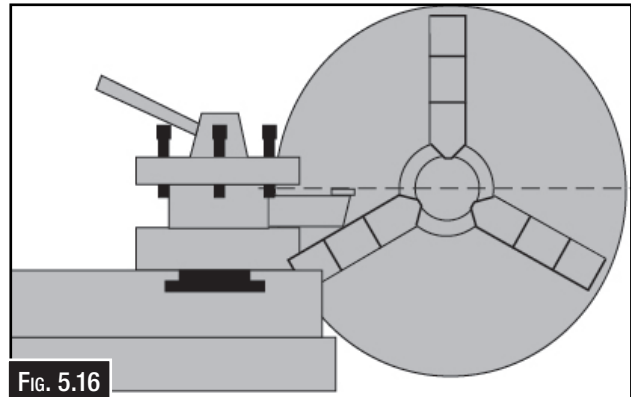

Fig. 5.16
The tip of the cutting tool should be set up so that it is in line with the centerline of the spindle, as illustrated in Fig. 5.16.
- d. Adjust the height of the cutting tool tip to meet the center tip, as shown. (Fig. 5.16)